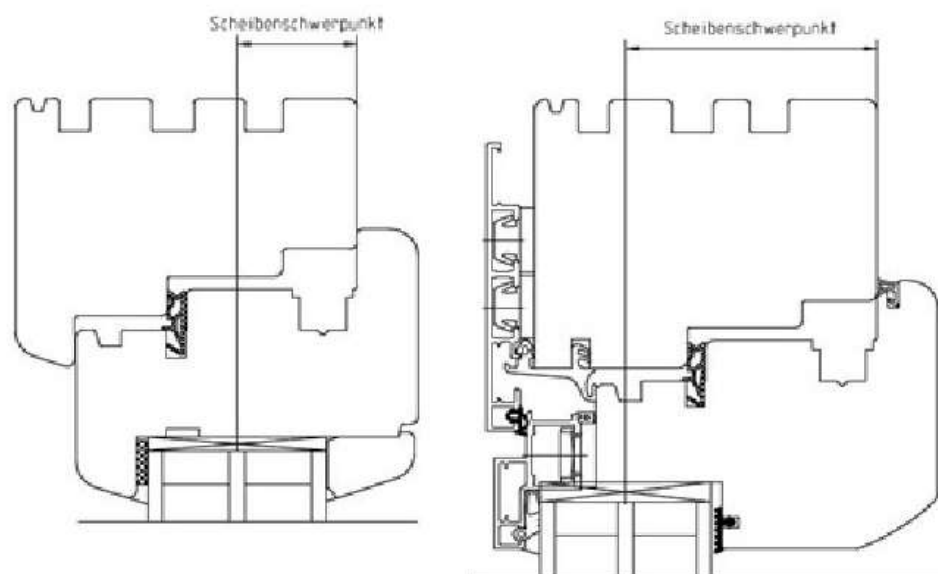

Bild 1:
1. Place the drilling jig at the upper rebate corner (see Fig. 1)
2. Drill two holes with \varnothing 3 mm for the positioning of the anti-slam device (see Fig. 1)